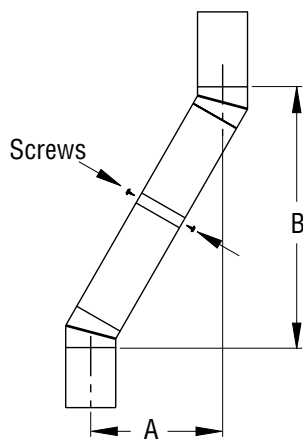

Figure 11 - Elbow Offset
Continue to assemble chimney sections as outlined, making sure that both inner and outer pipe sections are locked together. When installing double wall snap-lock chimney together, it is important to assure joint between chimney sections is locked. Check by pulling chimney upward after locking. Chimney will not come apart if properly locked. It is not necessary to add screws to keep chimney together (exception - see Figure 11, page 9).
4. All pipe connections between offset and return must be secured with two screws on outer pipe only (see Figure 11, page 10). Do not penetrate inner stainless.